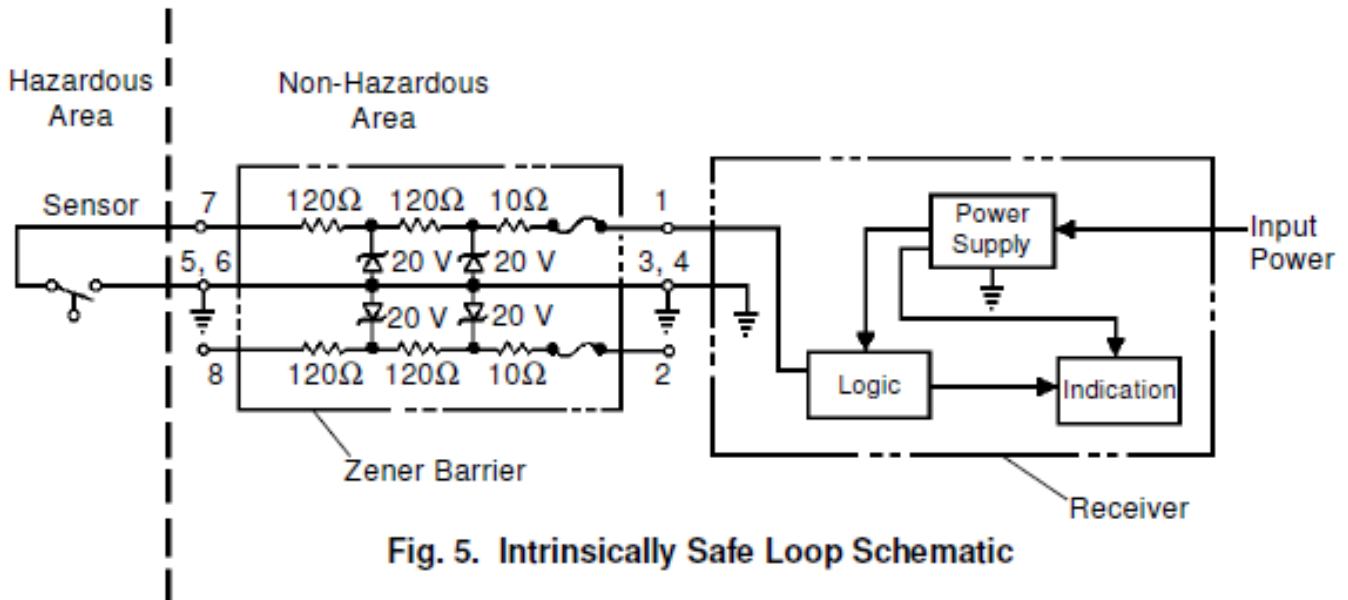

Fig. 5. Intrinsically Safe Loop Schematic
C. **Test performance (See Fig. 5)**